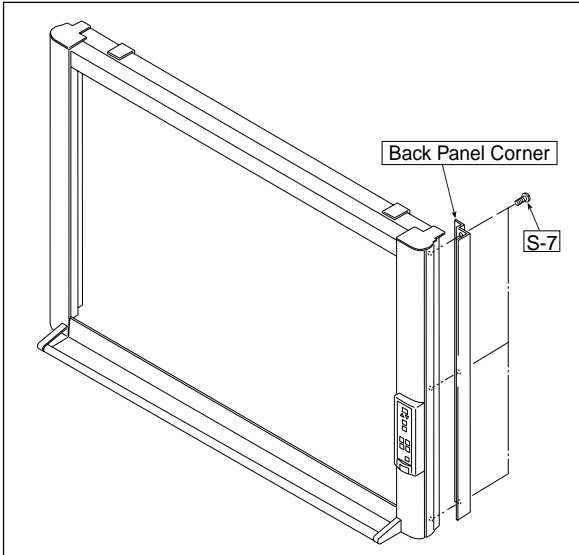

Fig. 1
### 1) Remove the Back Panel. (See Figs. 1 and 2.)
1. Remove the “S-7” screws shown in Fig. 1 and then remove the Back Panel Corner.